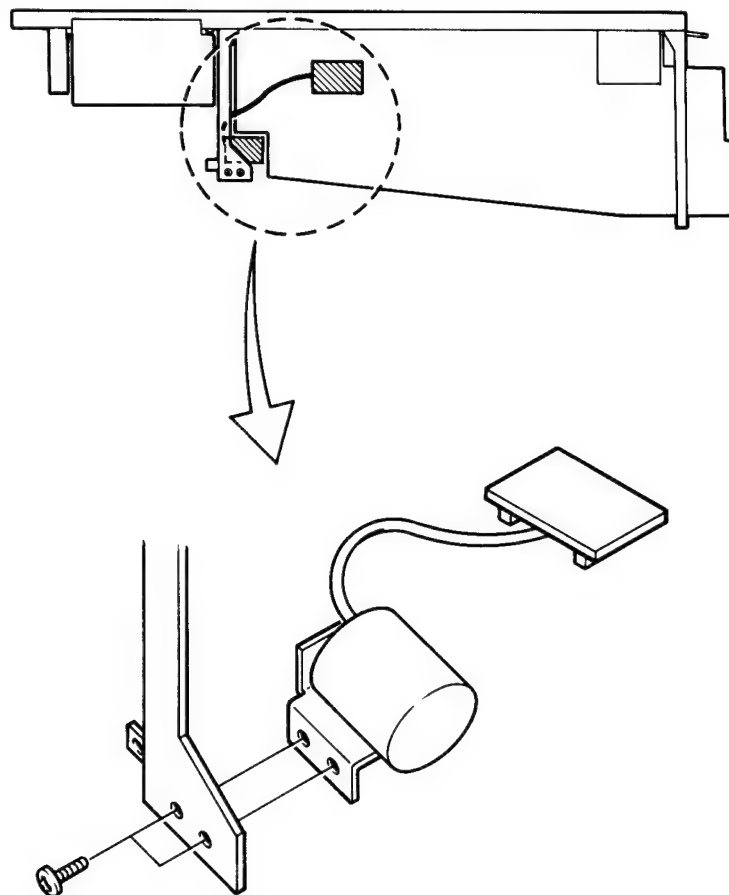

FIGURE 6-6. OPTIONAL INPUT TRANSFORMER INSTALLATION. (IT1800A)
The PM1800A standard input module is equipped with a balanced, differential input preamplifier for the XLR connector. That preamp, along with some circuitry for the resistive attenuation pads, is located on a small printed circuit board that "piggy back" mounts to the module's main circuit board. Refer to Figure 6-6.
6. Install the transformer by securing its bracket to the lower left edge of the module frame with the screw provided. Dress the cable that joins the transformer and its circuit board neatly. You may wish to tie it to the board so that after the module is reinstalled, the cable does not become pinched between modules or between the module and mainframe. Refer to Figure 6-6.